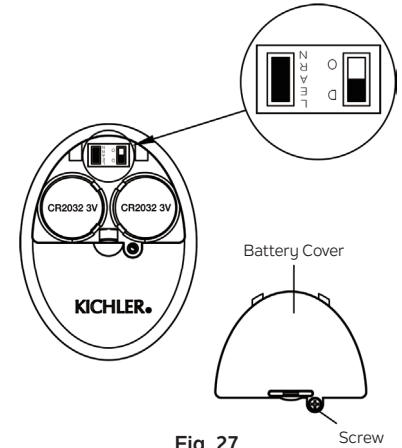

Fig. 27
Otherwise the remote control will not work. To perform this process manually, follow steps below: After installing and wiring the unit, restore power to your fan, press and hold the “LEARN” key for 1-3 seconds, and the fan will turn on at medium speed and light (if installed) will turn on. This confirms that the learning process has been completed. This operation must be completed within 30 seconds after restoring power to the fan. (Fig. 27)
NOTE: Ensure slide switch in battery compartment marked “D O” is set to “D” position. (Fig. 27)
Step 4. Replace the battery cover and tighten with screwdriver. (Fig. 27)